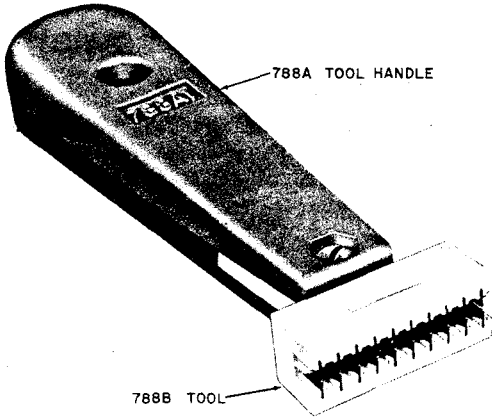

Fig. 8—5-Pair Insertion Tool (with Handle)
3.01 The *5-pair insertion tool* (Fig. 8) consists of a 788A-type tool handle and a 788B-type tool head. The tool is used to seat five cable pairs at one time or to insert a 3- or 5-pair connecting block on the index strip of the wiring block.